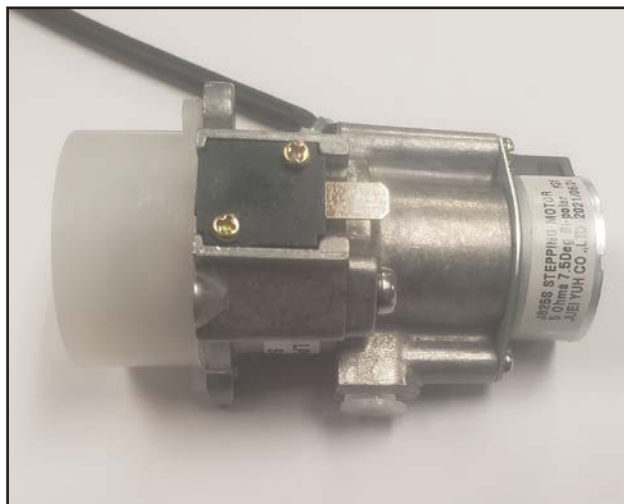

Figure 6: Main Burner Regulator - LP Conversion
5. Main Burner Solenoid: Green in colour. The main burner solenoid gets changed out when the unit is converted to Propane (along with attached stepper motor). A conversion kit is signified with a stamp of the pressure rating "6.4 - 10" along the side of the main burner solenoid. See Figure 6.